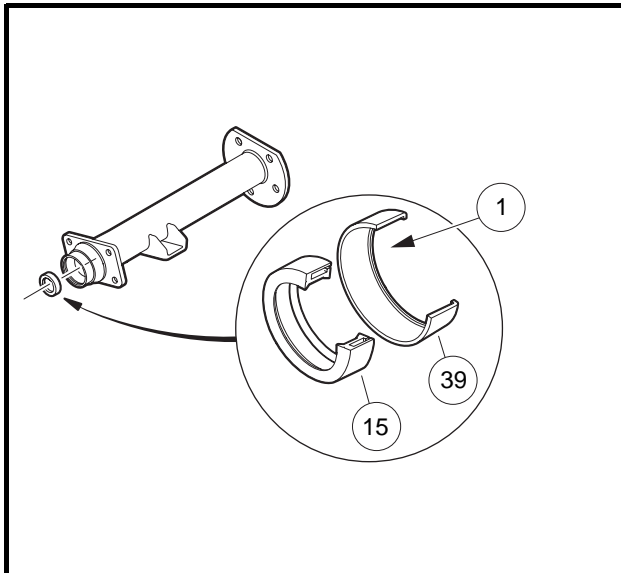

Figure 17-3 Axle Seal and Adapter Ring
- 6.2. Use a press to separate the axle oil seal (15) from the adapter ring (39) (**Figure 17-3, Page 17-2**). Retain the adapter ring and discard the oil seal.
- 1.1. Clean seal seat in the adapter ring (39) (**Figure 17-3, Page 17-2**).
- 1.2. Place a new seal (15) in the adapter ring with the seal lip facing toward the adapter ring lip (1) (**Figure 17-3, Page 17-2**). Use an axle seal tool (CCI P/N 1014162) and mallet to tap it in until it seats firmly in position (**Figure 17-3, Page 17-2**). A hydraulic press may also be used with the axle seal tool.